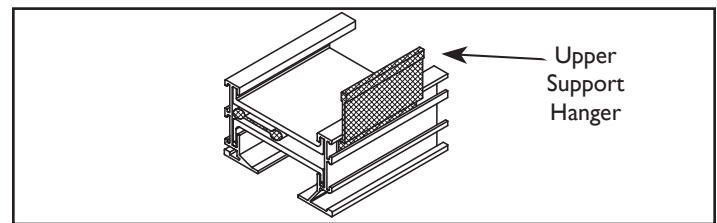

Figure 21. Attachment of UHC to Two-Slot Diffuser
- ❑ FlowBar Diffusers with two-slots are supported by sliding Upper Support Hangers through the top bosses in the FlowBar rails as shown in Figure 21.